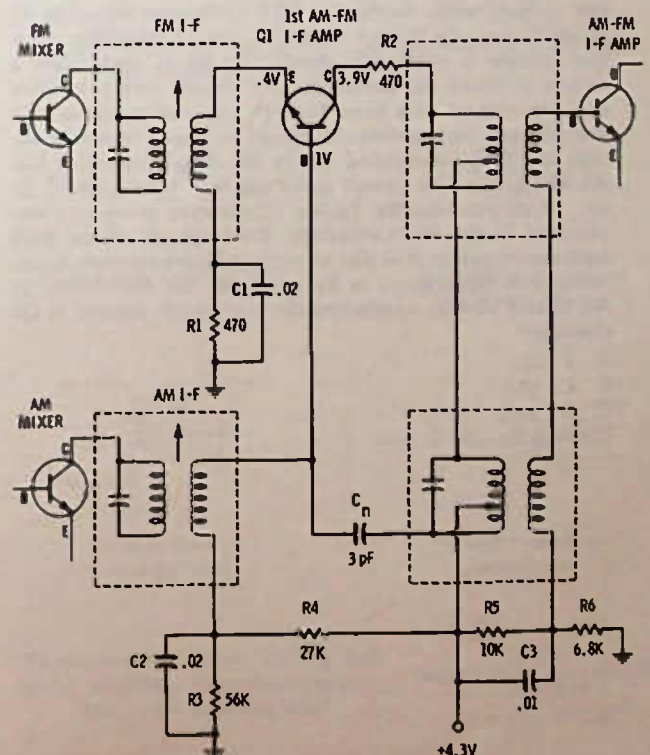

Fig. 13-21. Circuit for Questions 23, 24, and 25.
23. Fig. 13-21 is a combination am/fm i-f amplifier section. In this circuit the a-m and fm signals
24. If the collector of Q1 in Fig. 13-21 reads 4.3 volts, it might indicate
25. In Fig. 13-21, capacitor C₁